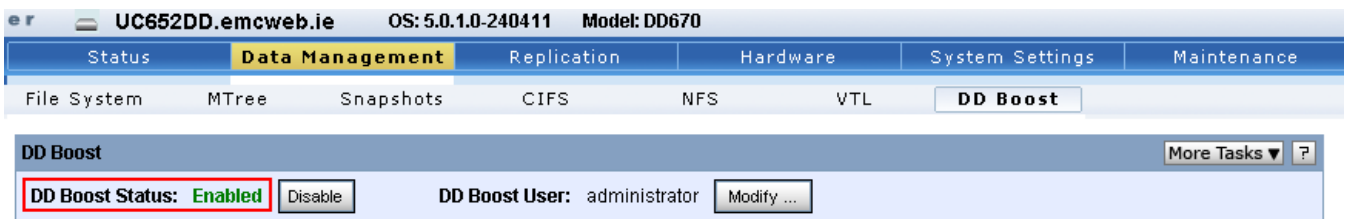

Figure 8. DD Boost service status
4. Ensure that DD Boost is enabled as shown in Figure 8.